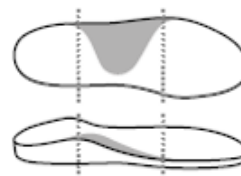

Fig. 3: Longitudinal arch support
- Longitudinal arch support (Fig. 3)